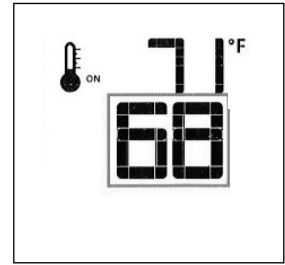

Figure 85. Change Set Temperature.
- To adjust the Set Temperature, press the Up or Down Arrow Keys until the desired Set Temperature is displayed. Fig. 85.